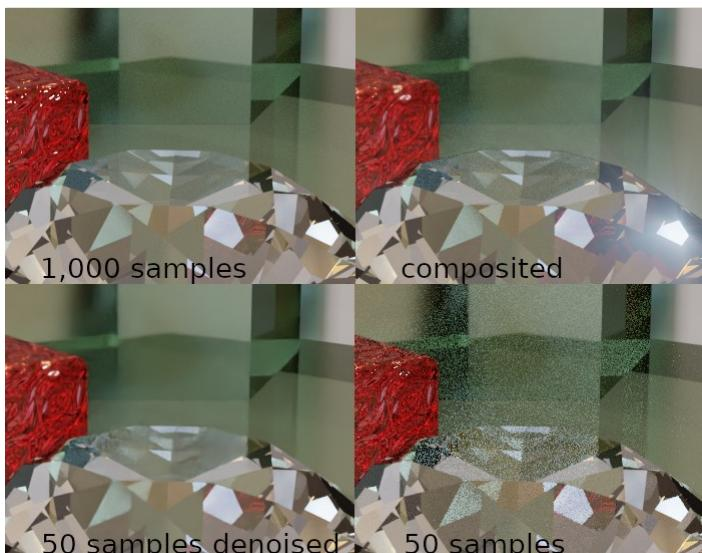

Figure 13-8 Comparison of different sample numbers and effect of denoising.
that they can produce a lot of noise when rendered, which requires a high number of samples to resolve. The denoiser in Blender version 3.0 onward is amazingly good, as you will appreciate if you look at Figure 13-8, but in some circumstances it can blur details, such as the highlights on the top of the red cut-glass block. In this exercise the foreground will be rendered with a high number of samples and the background will use a low number of samples and denoised in the compositor, then a small amount of the noisy render will be mixed back in.
1. Start off by adding a few objects to the scene. I used the add-on; extra objects, which was still enabled from Chapter 12, and has a diamond mesh option, but a normal ico sphere would be fine. Add a cube with beveled edges and some five sided cylinders as table and background objects. Change all the materials to Glass BSDF with low roughness and light tint, for the cube use a procedural texture and bump node to create a slight normal pattern. Finally in the world settings add an environment texture. You can see in Figure 13-8 a detail from the scene I set up, but the actual layout isn't too critical.